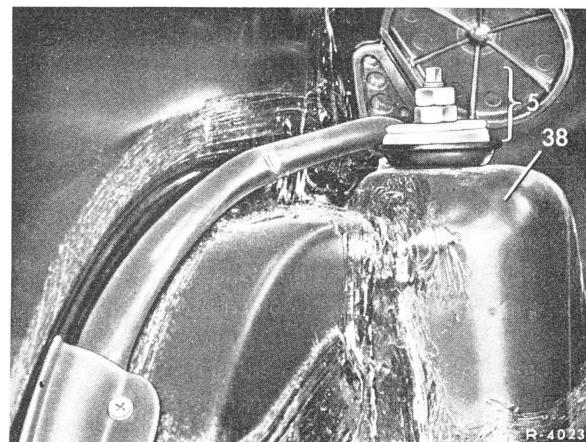

Fig. 5
- 8 From the trunk, unscrew the hexagonal nuts on the upper suspension, remove disc and rubber ring (Figs. 5 and 6).